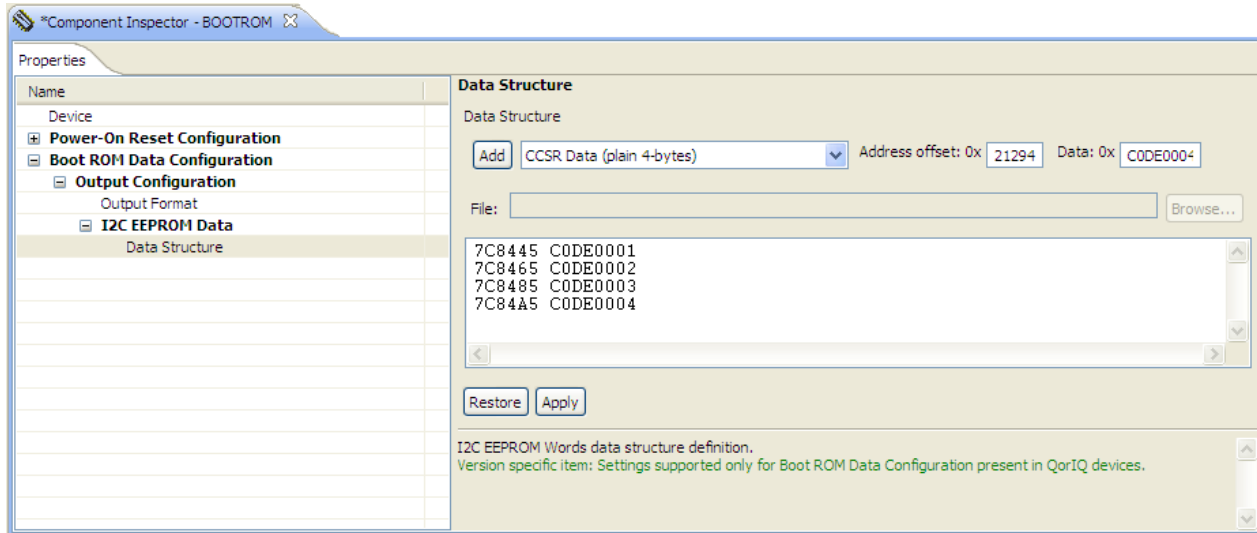

Figure 10. Editing Data Structure property - I2C EEPROM data
- Header Table file with an EEPROM data structure defined as an array of properly formatted data including all user-defined configuration data as shown in Figure 10. Editing Data Structure property - I2C EEPROM data on page 12.